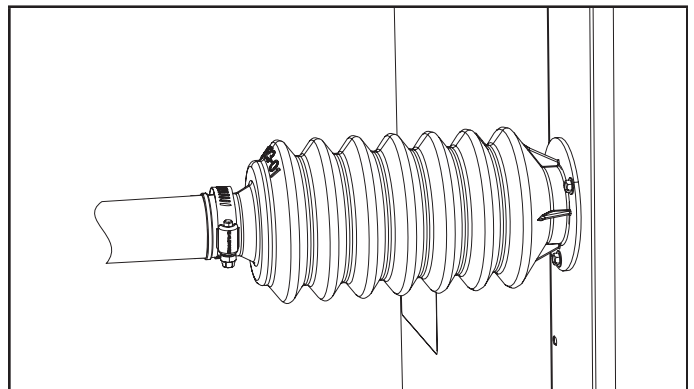

FIGURE 9. Band Clamp Installed on Sleeve
- 3 - Position the band clamp as shown in figure 9 and torque to 25 in-lbs to seal sleeve to line set.
- 2 - Position the band clamp as shown in figure 9 and torque to 20 in-lbs to seal sleeve to line set.
Connect the main drain and route downward to drain line or sump. Do not connect drain to a closed waste system. See figure 9 for typical drain trap configuration.